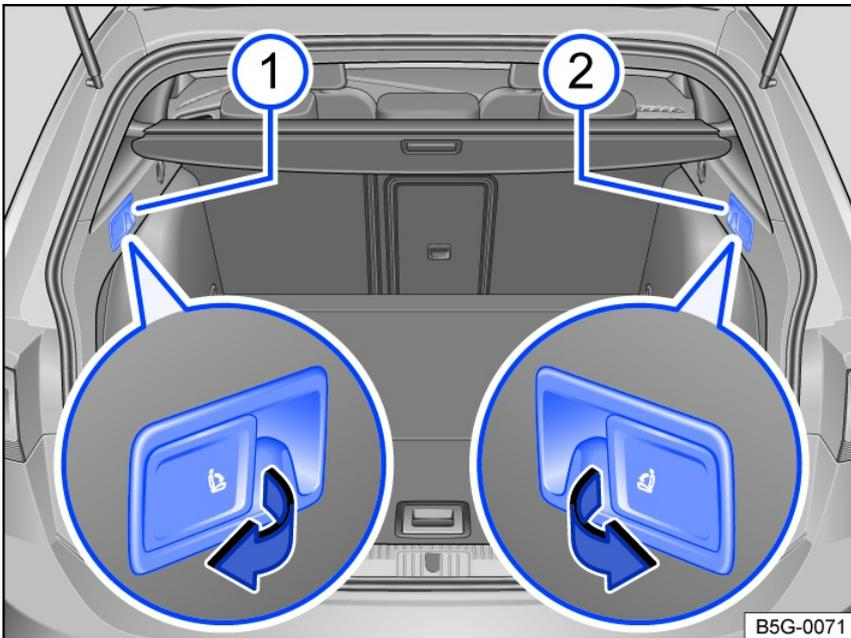

Fig. 83 In the luggage compartment: Remote unlocking lever for the left ① and right ② part of the rear seat backrest.
- Pull the remote unlocking lever *fig. 83* for the portion of the rear seat backrest you want to fold forward and down.